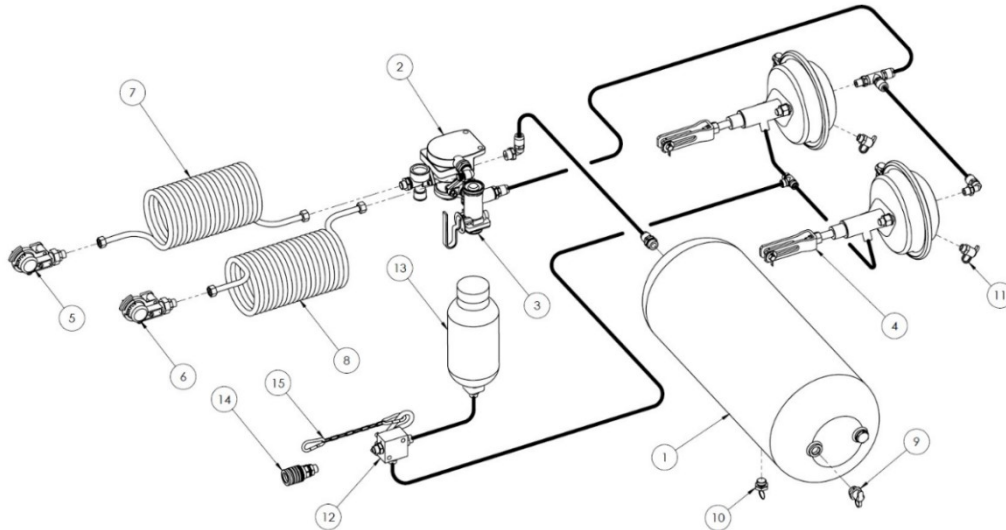

Figure 10 The hydraulic pneumatic braking system
- pneumatic hydraulic braking system (Figure 10)
Another option for the braking system is the hydraulic pneumatic braking system. This system is a combination of hydraulic and pneumatic 2-line braking systems. Whether you can connect the hydraulic or pneumatic braking system depends on the type of trailer brakes the tractor is equipped with – Figure 10.